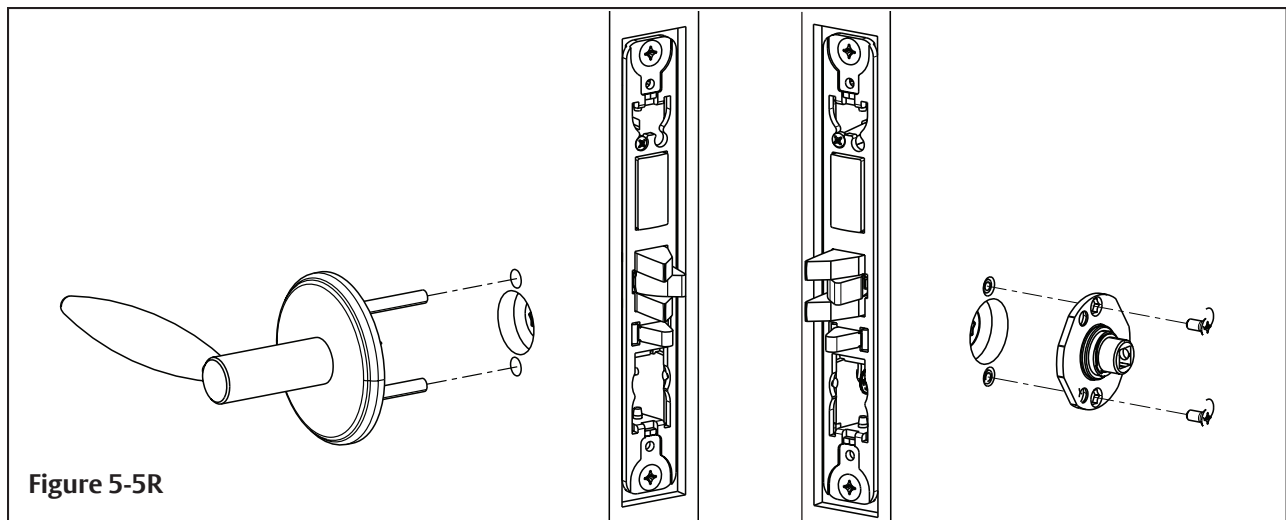

Figure 5-5R
3. Install outside trim assembly and inside adapter plate. (Figure 5-5R)